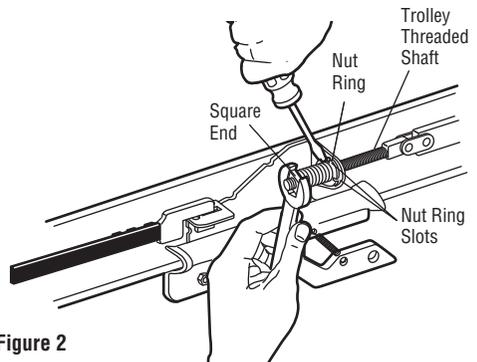

Figure 2
2. Insert a screwdriver tip into one of the nut ring slots and brace it firmly against the trolley (Figure 2).